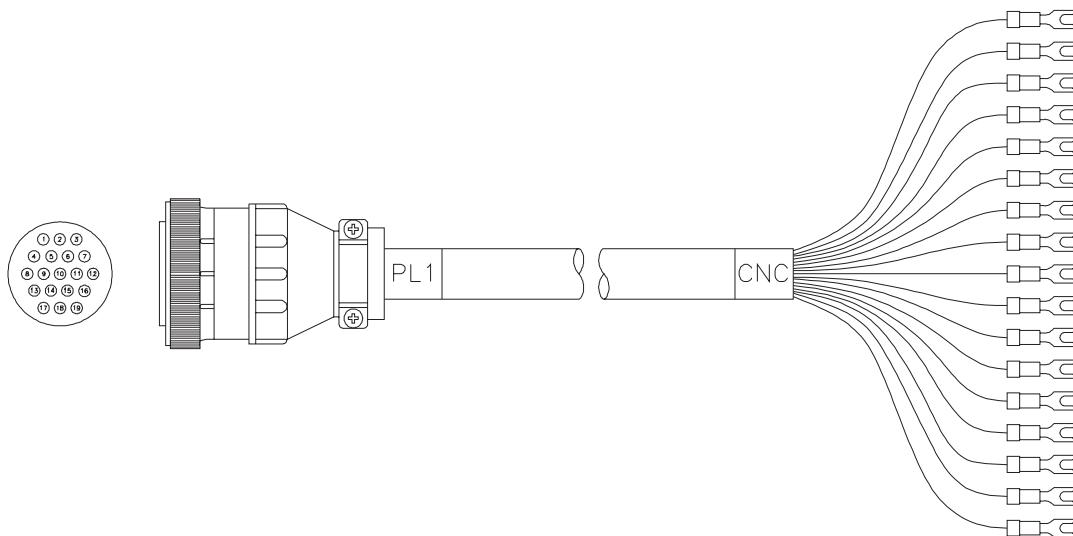

Figure 2-6 Interface Cable (for use with full CNC Control)
**Full CNC Control** – This configuration requires the use of the **17-wire interface cable** (Fig. 2-6).